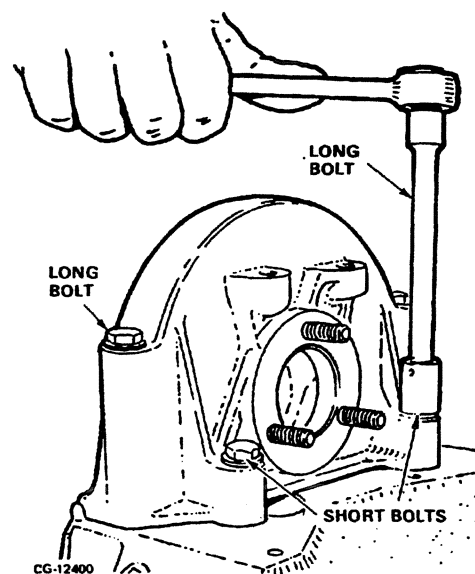

Figure 9.34. Adapter Housing Installation
3. Install the adapter housing over the injection pump drive gear and tighten the four mounting bolts. Refer to Figure 9.34.